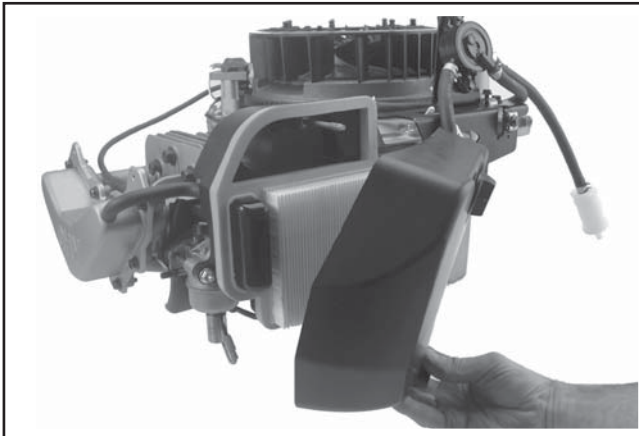

Figure 8-7. Removing Air Cleaner Cover.
1. Loosen the two knobs and remove the air cleaner cover. See Figure 8-7.